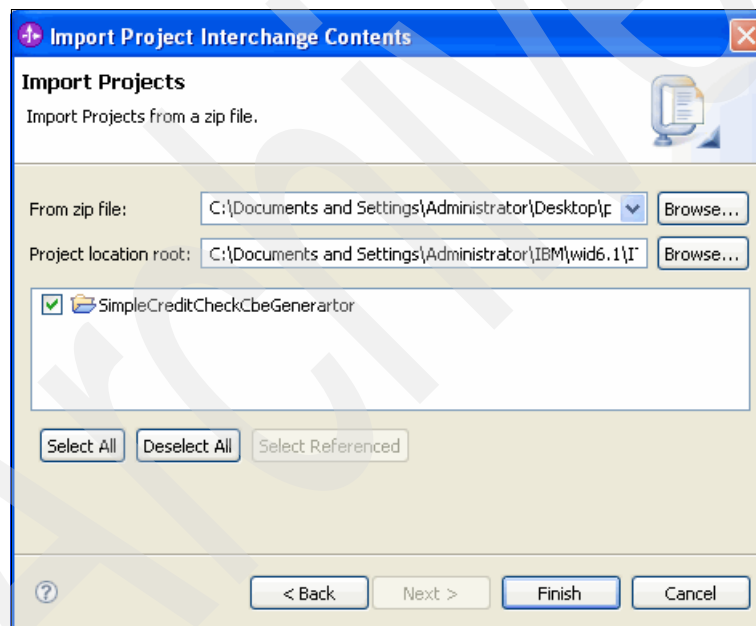

Figure 10-94 Import Project Interchange Contents window
2. In the Import Project Interchange Contents window (Figure 10-94), import the provided project interchange file, CreditCheckTest001.zip. Click **Finish**.